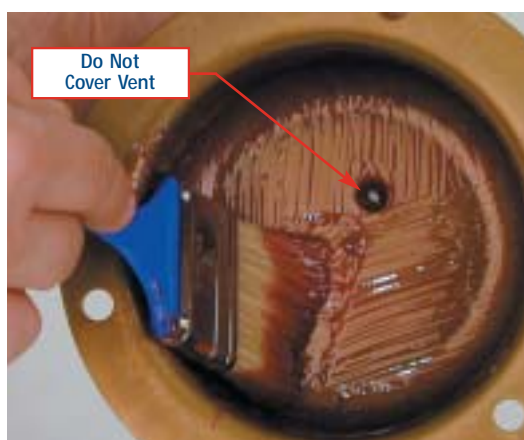

Figure 2 Coat the Inside of Stamped Steel Hub Caps.
1. Using a clean brush or your hand (Figure 2), wipe the inner surfaces of the stamped steel hub cap with a thin layer of lubricant until all areas are covered as shown. **DO NOT COVER THE VENT MECHANISM WITH LUBRICANT!** This will result in “filming” or seepage of lubricant from the vent onto the external face of the hub cap during initial operation, and may clog the vent in some cases.